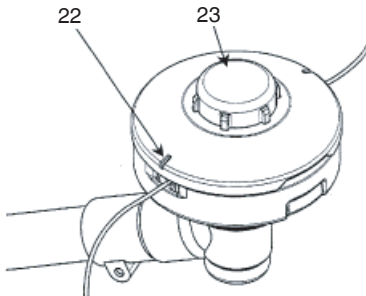

Fig. 10
- Check the case and button for wear. If the wear limit mark (22) on the case is no longer visible or there is a hole in the bottom (23) of the button, change the new parts immediately. (Fig. 10)